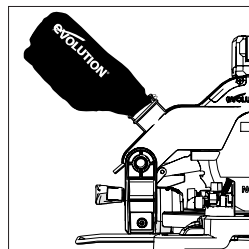

Fig. 28
- Slide the dust bag over the dust extraction port, ensuring that the spring clip grips the port holding the dust bag securely in place (**Fig. 28**).